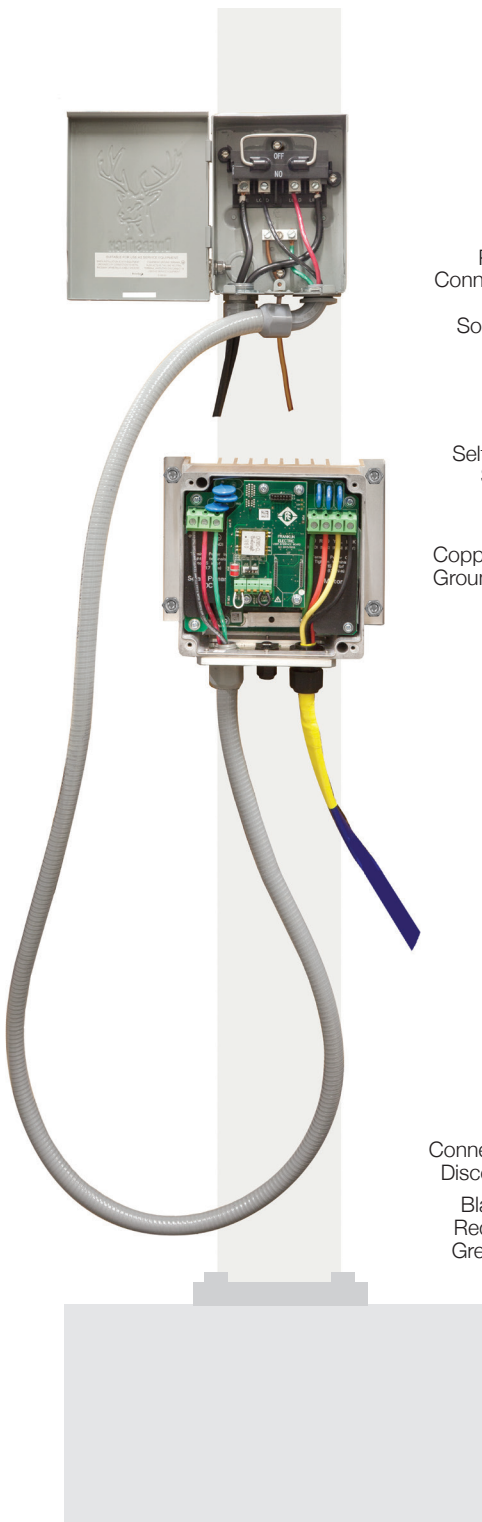

Figure 11-1: Photon Drive with Disconnect Box
- Begin by attaching the Disconnect Box to the pole a minimum of 18 in. (45.7 cm) beneath the array with power knockout oriented downward. Pre-drill 1/8" holes and attach Disconnect Box to pole using 2 1/2" self tapping screws. See figure 11-1.
- Properly secure the other end of the grounding wire to the dual grounding lug inside of the DC Disconnect. This will be the main equipment ground source. See figure 11-1.